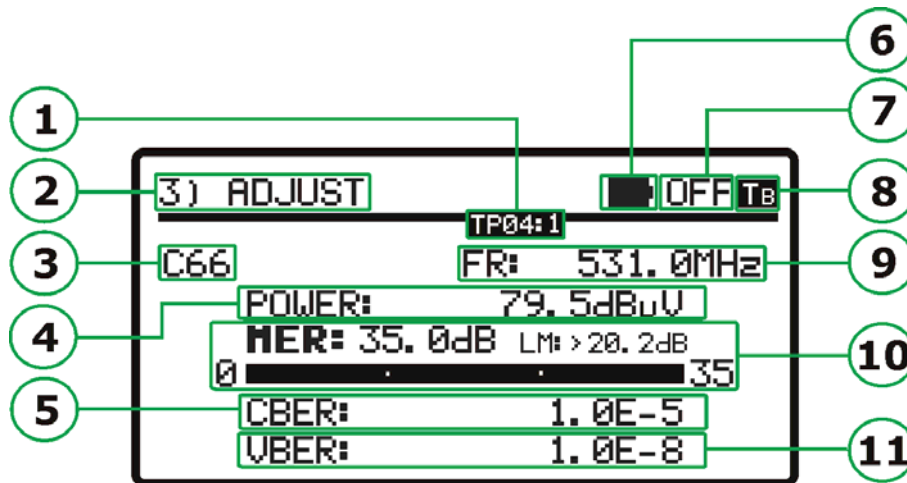

Figure 17. ADJUST function.
- 3 Measurements are shown on the screen in a graphical and alphanumerical way (see figure 17.). The unit of measure of the power average is configurable by software. It can be selected among dB μ V, dBmV or dBm.